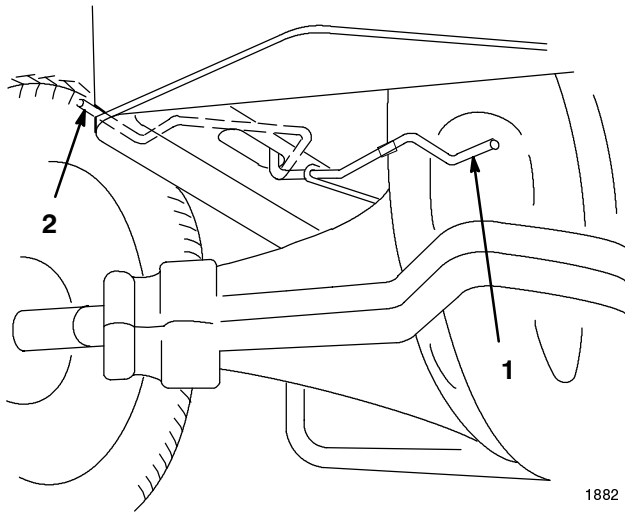

Figure 3
2. Place the drive control in the “Push” position (Fig. 3).
3. Run engine at a low idle and move traction control pedal forward for five (5) seconds then reverse for five (5) seconds. Repeat three (3) times.
4. Place the drive control in the “Operate” position (Fig. 3). Drive the tractor forward then reverse approximately five (5) feet. Repeat three (3) times.